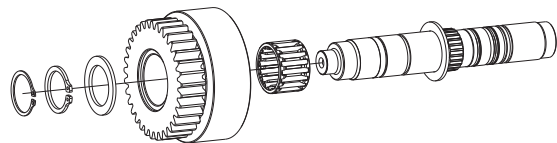

Figure 8 – Output Shaft Component's Removal
13. With the drag brake removed, the snap rings (5 & 6) on this end of the bell gear can be removed with snap ring pliers. Proceed to remove the thrust washer (7) and the bell gear (8) to be removed towards the rear of the shaft. The internal bearing (9) of the bell gear can be removed. *See Figure 8*